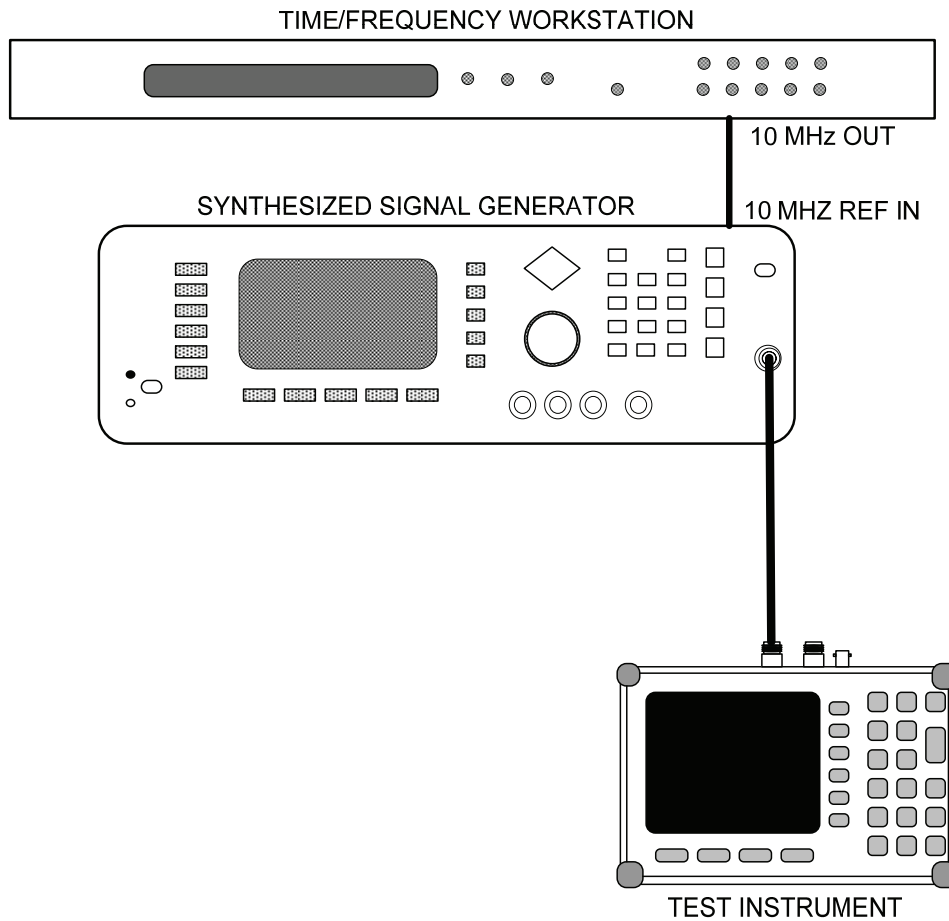

Figure 1. Frequency accuracy, phase noise, and resolution bandwidth accuracy - equipment setup.
- a. Connect equipment as shown in figure 1.
- (1) Connect equipment as shown in figure 1.
- (2) Set synthesized signal generator for a frequency of 2000 MHz and an output of 0 dBm.
- (3) Press TI keys as listed in (a) through (c) below:
- (4) Confirm the **RBW** is 100 Hz and the **VBW** is 30 Hz.
- (5) Turn TI off.
- (6) Press and hold the **1, 5**, and **9** keys together, and press the **ON/OFF** key to turn TI back on.
- (7) Press TI [**SA Tests**] key, and then [**Tune Freq**] key.
- (8) Use the Up/Down arrow key to increase/decrease the **Tune Freq Level** number, then **ENTER** key.
- (2) Turn TI off. Press and hold the **ESCAPE/CLEAR** key and the **ON/OFF** key simultaneously to turn on the TI.
- (3) Set the synthesized signal generator for a frequency of 1000 MHz and an output of -30 dBm.
- (4) Press TI keys as listed in (a) through (h):